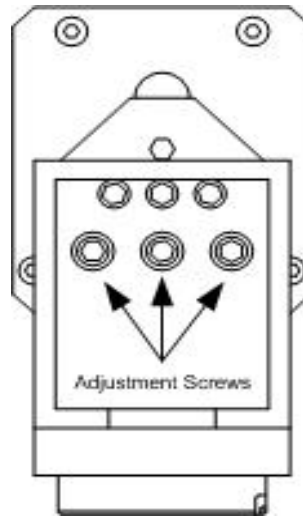

Figure 2. Fixture.
(8) Apply total weight indicated at the bottom of the **Applied Mass** section to the calibration arm.
(9) Level arm by adjusting the three screws located in the fixture housing, illustrated in figure 2.
(8) Level arm by adjusting the three screws located in the fixture housing, illustrated in figure 2.
(9) Steady mass making sure that no oscillation can be observed in the level bubble.
(10) Select the **Record Calibration Point** button.
(11) Repeat technique of (7) through (10) above for the 60 percent and 100 percent applied mass load to calibration arm.